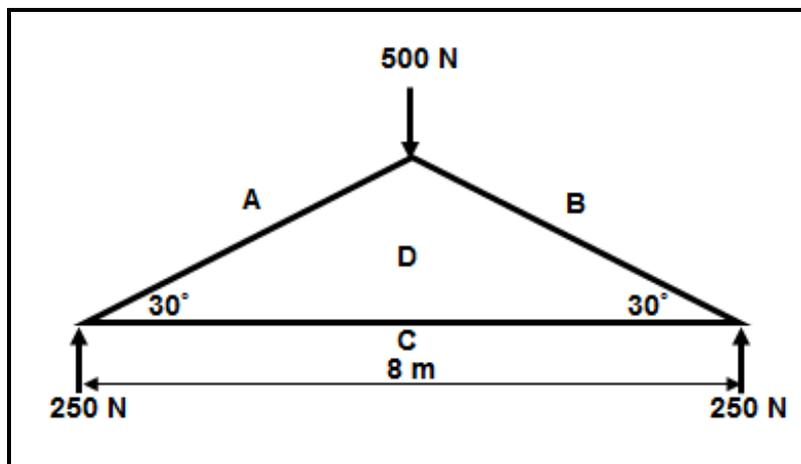

FIGURE 7.1
- 7.1 FIGURE 7.1 below shows a steel framework. Determine graphically the magnitude and nature of the forces in the following members: **AD**, **BD** and **CD**.